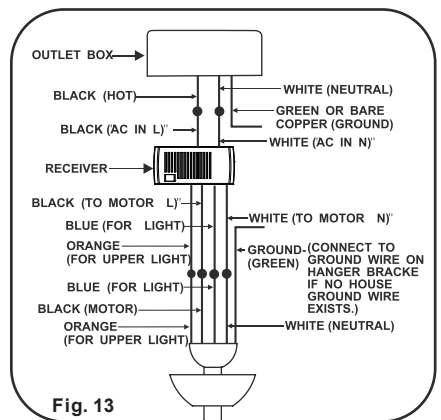

Fig. 13
**NOTE:** If your ceiling fan features an UP Light: Connect the ORANGE wire from the fan to the ORANGE wire marked " For Up Light " from the Receiver. Otherwise disregard this step and proceed to secure all wire connections with the plastic wire nuts provided.(Fig.13)
**Step 3.** Receiver to House Supply Wires Electrical connections: Connect the WHITE wire (Neutral) from the outlet box to the WHITE wire marked "AC IN N" from the receiver. Connect the BLACK wire(Hot) from the outlet box to the BLACK wire marked "AC IN L" from the receiver. Secure all wire connections with the plastic wire nuts provided.(Fig.13)
**Step 4.** If your outlet box has a GROUND wire (Green or Bare Copper) connect this wire to the Hanger Ball and Hanger Bracket Ground wires. If your outlet box does not have a Ground Wire, then connect the Hanger Ball and Hanger Bracket Ground Wire together. Secure wire connection with the plastic wire nut provided.(Fig. 13 )